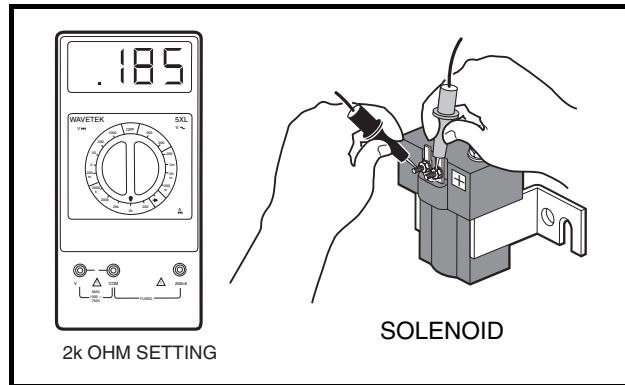

Figure 11-10 Activating Coil Test
5. Place red (+) probe of the multimeter on the positive (+) solenoid terminal. Place the black (–) probe on the other small solenoid terminal. A reading of 180 to 190 ohms should be obtained (**Figure 11-10, Page 11-16**). If not, replace the solenoid.